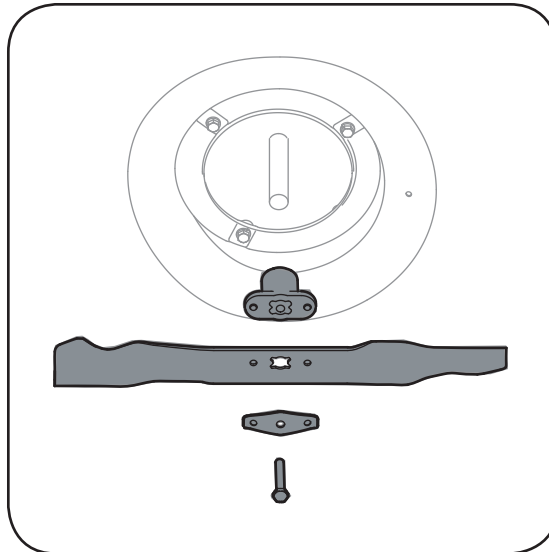

Figure 5-2: Remove the bolt, support, and adapter to access the blade.
2. Remove the bolt and the blade bell support which hold the blade and the blade adapter to the engine crankshaft, Figure 5-2.
3. Remove blade and adapter from the crankshaft, Figure 5-2.